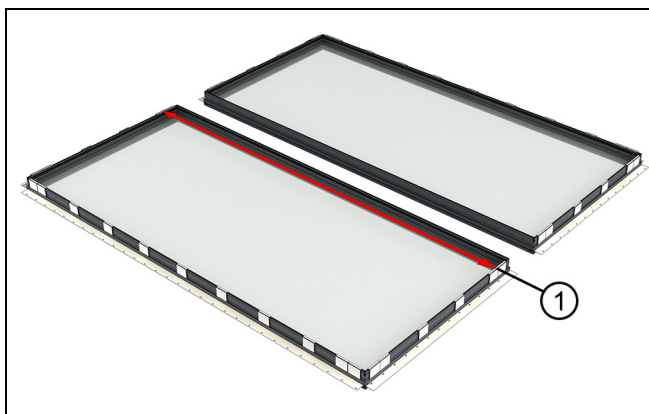

Figure 2
1. Calculate the length of steel for the mull by taking the frame outside measurement and adding 1/8" (3). Cut the steel to this measurement. See Figure 2.